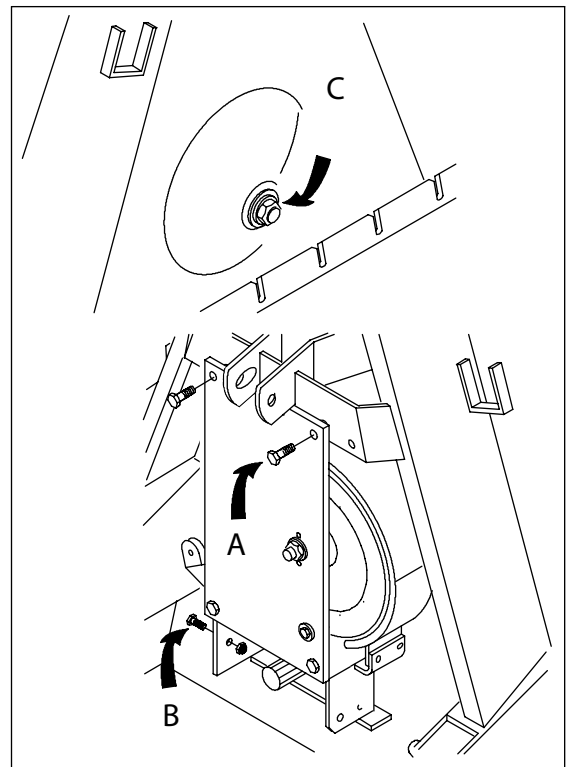

Fig. 19. Removing the winch mechanism
3. Remove the fastening bolts (fig. 19 pos. B) beside the drive shaft. Socket size 24 mm (15/16").
4. Remove the two bolts (fig. 19 pos. A) at the upper edge of the cover plate. Socket size 24 mm (15/16").
5. Remove the drum axle nut (fig. 19 pos. C) and the washer. Socket size 36 mm (1 7/16")